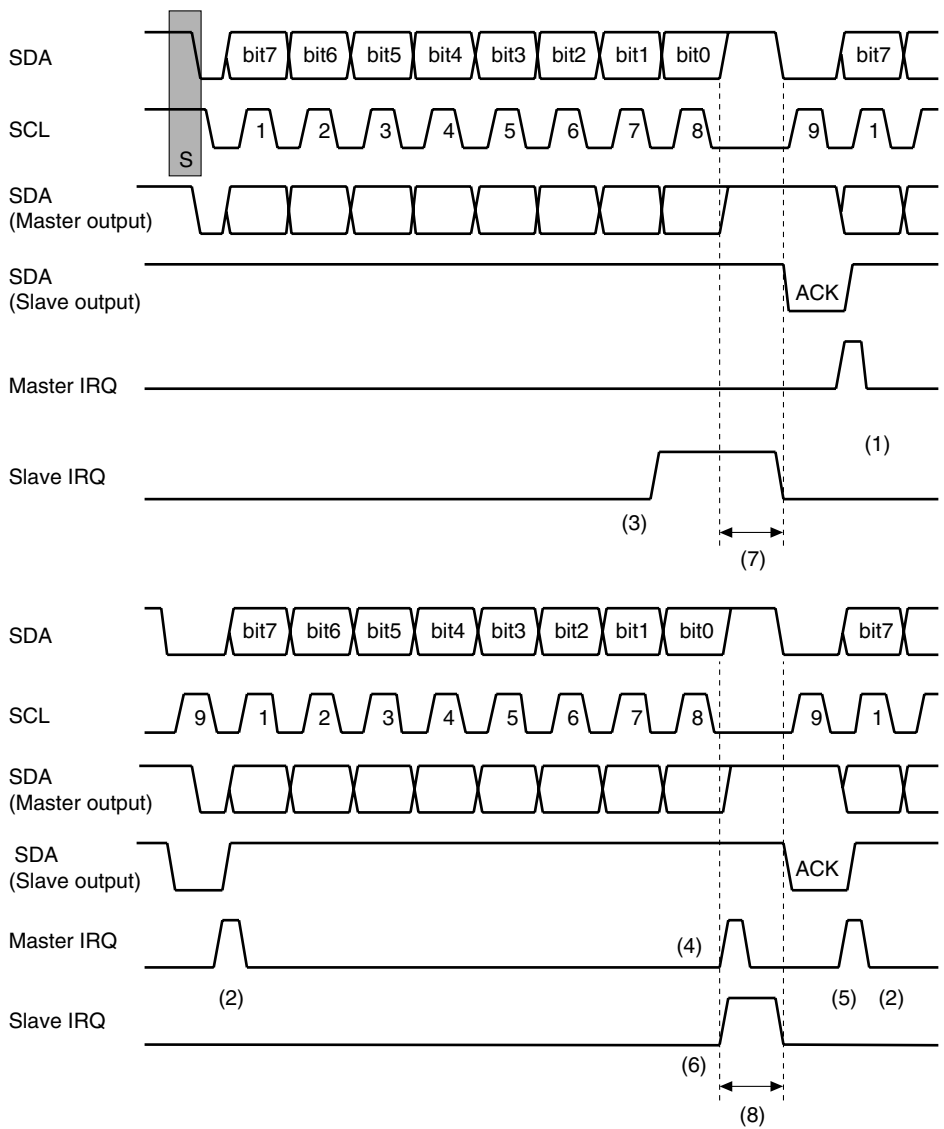

Figure 16.10 Data Transmit Mode Operation Timing
The transmit procedure and operation in master transmit mode is described below. Figure 16.10 shows the timing operation in master transmit mode.
3. After the signals for indicating the transmit start condition, the slave address, and the data transfer direction are transmitted, IRQ of MAT (bit 0) in the Master Status Register is generated in the timing of (1) in figure 16.10. At this time, clear the ESG bit to 0.
4. IRQ of the SAR (slave address received) is generated in the timing of (3). If the IRQ processing of the slave device is delayed, the slave device extends the SCL period to suspend data transmit (in the timing of (7) in figure 16.10). The slave device makes SDA low level at the ninth clock and returns ACK.
5. Data transmit is done in the unit of eight bits plus one bit of ACK, i.e., in the unit of nine bits. IRQ of MDE (bit 3) is generated at the ninth clock before data transfer (in the timing of (2) in figure 10). IRQ of MDT (bit 2) is generated at the eighth clock after 1-byte data transfer (in the timing of (4) in figure 16.10). Clear MDE to 0 after setting transmit data. IRQ of SDR (slave data receive) of the slave device is generated at the eighth clock (in the timing of (6) in figure 16.10). Clear SDR after the slave device reads the receive data. If this processing is delayed, the slave device extends the SCL period to suspend data transmit (in the timing of (8) in figure 16.10).
Timing from (1) to (6) in figure 16.10 is generated after the falling edge of the clock.